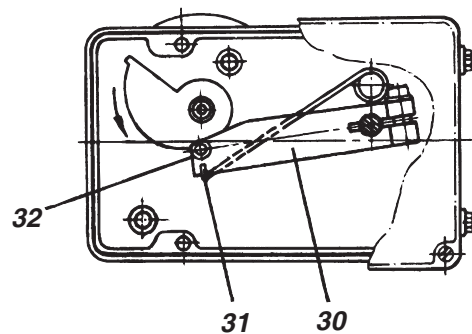

Fig.17: Attachment of positioner to rotary actuator. Alignment of cam
- f) Mount positioner on housing of attachment kit. Attach spring **31** to feedback lever **30** and cam follower **32** against cam (see Fig. 17).